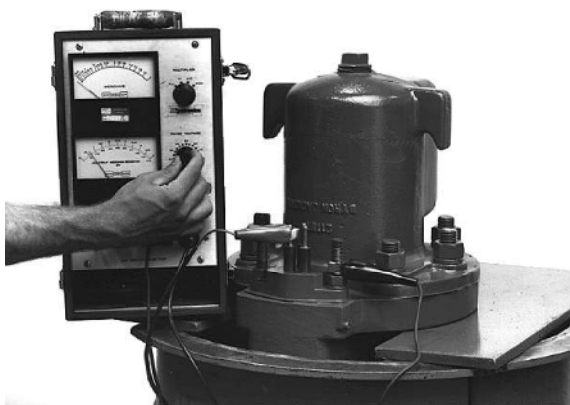

Figure 8 Megger test
1. Remove the nuts (003-3) and lock washers (690-3) to remove the motor terminal shipping cap (112), and gasket (747-10).
2. Verify that motor terminal gland plate (111) and power terminals (019) are clean and free of dirt and foreign matter.
3. Megger the motor for ground and continuity (see Figure 8).